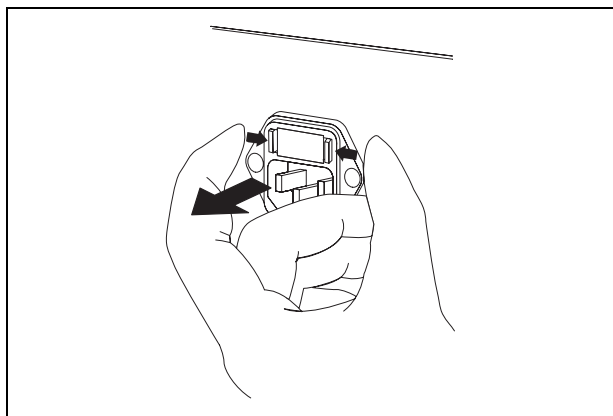

Figure 4.3
3. Remove the fuse box from the electrosurgical unit by squeezing the tabs on the sides of the fuse box and pulling it straight out (see Figure 4.3).